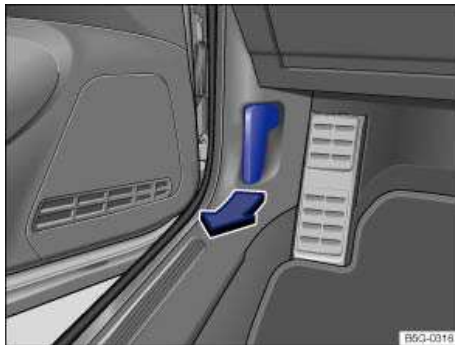

Fig. 152 In the footwell on the driver side: Inside engine hood release lever.
- Open the driver door and pull the inside hood release lever in the direction of the arrow ⇒ fig. 152.